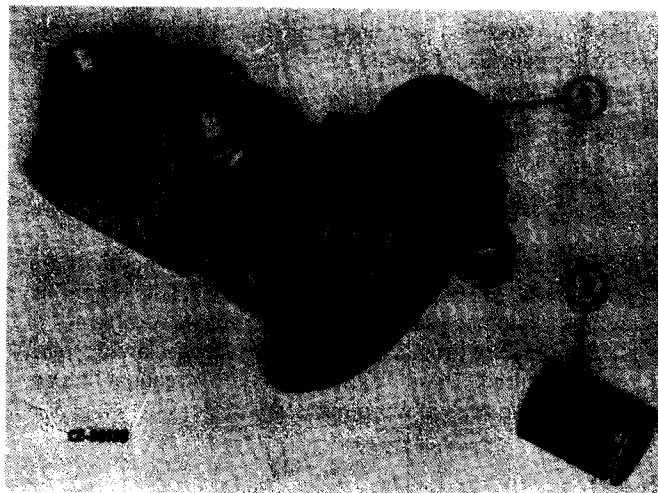

Figure 13-15
RIGHT TREADLE VALVE - Remove plunger (2, Fig. 13-15) from mounting plate(1).
Insert plunger (2, Fig. 13-15) into mounting plate (1) of right-hand treadle valve.